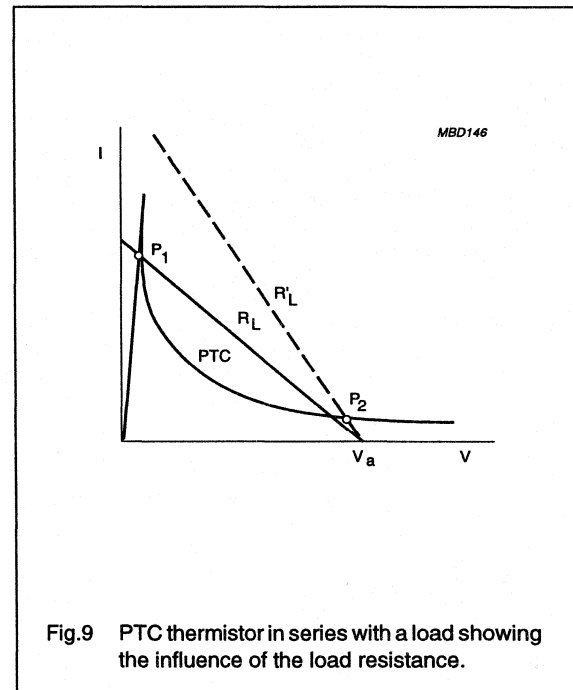

Fig.9 PTC thermistor in series with a load showing the influence of the load resistance.
3. The load resistance decreases (see Fig.9).